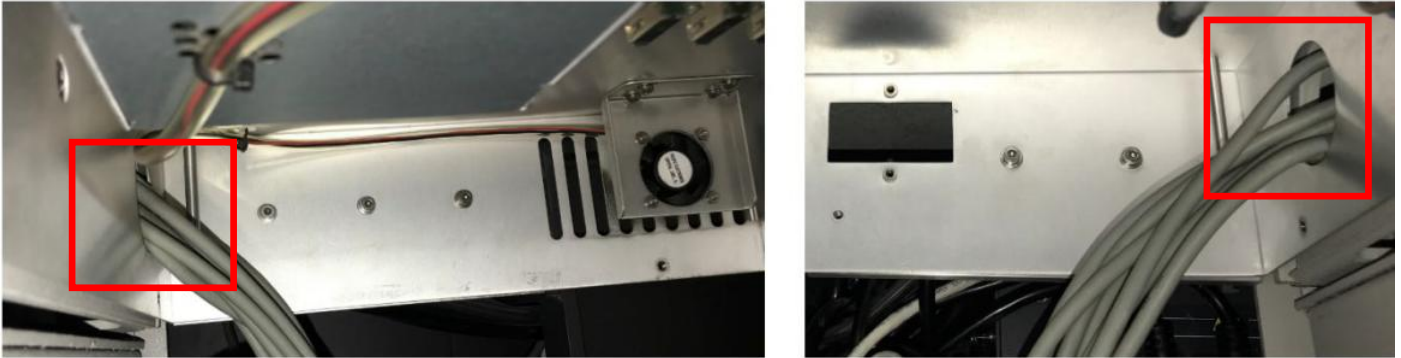

Figure 23 Retrieve 14 X Fire Wire
18. Gently pull 14 x Fire Wire into both tray opening as below Figure 23